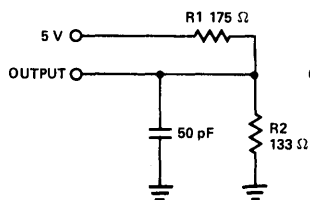
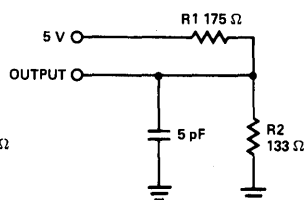

Figure 1a. Commercial
Figure 1b. Commercial
- Figure 1a test load used for all parameters except tEA, tER, tPZX and tPXZ. Figure 1b test load used for tEA, tER, tPZX and tPXZ.